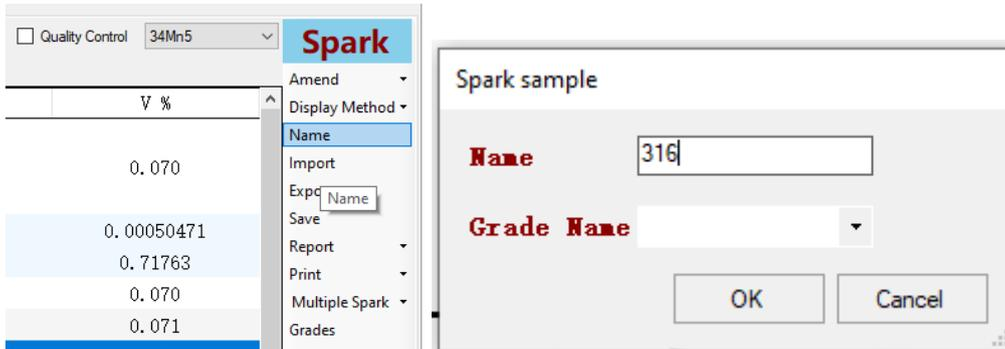

Figure 5-1 Simple data processing
Step 1 Enter "Name" and click "Save", as shown in Figure 5-1: